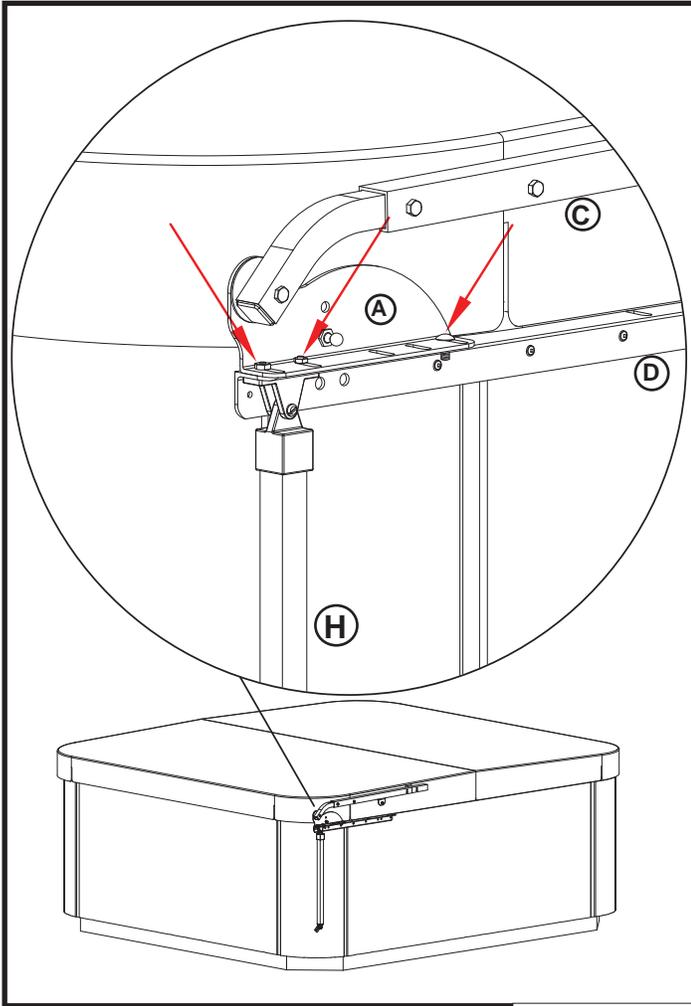

Figure 5.1
1. After both sides of cover (Left and Right) are spaced evenly side to side, tighten the (3) screws that hold the Base Bracket (A) to Auxiliary Bracket (D) (Figure 5.1).